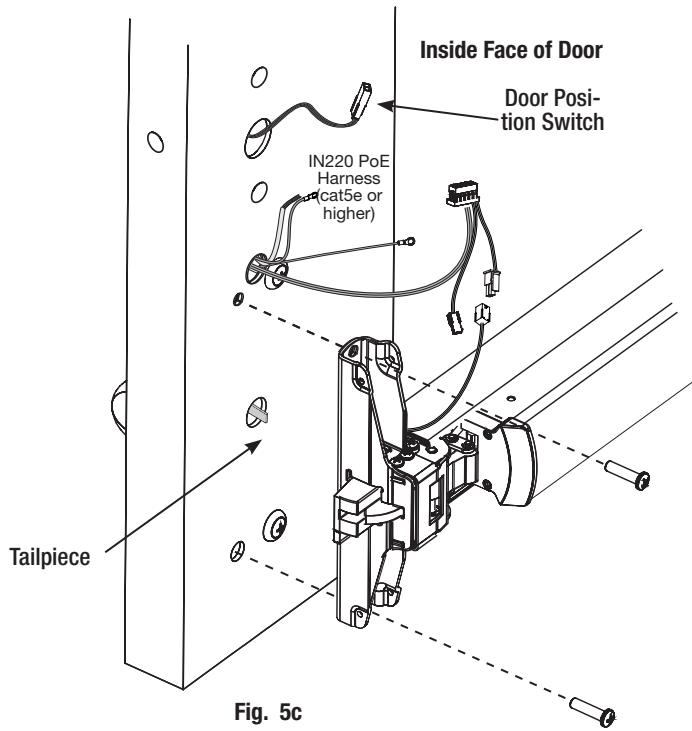

Fig. 5c
- c. Fasten device to trim assembly using (2) 1/4-20 pan head screws (Fig. 5c).